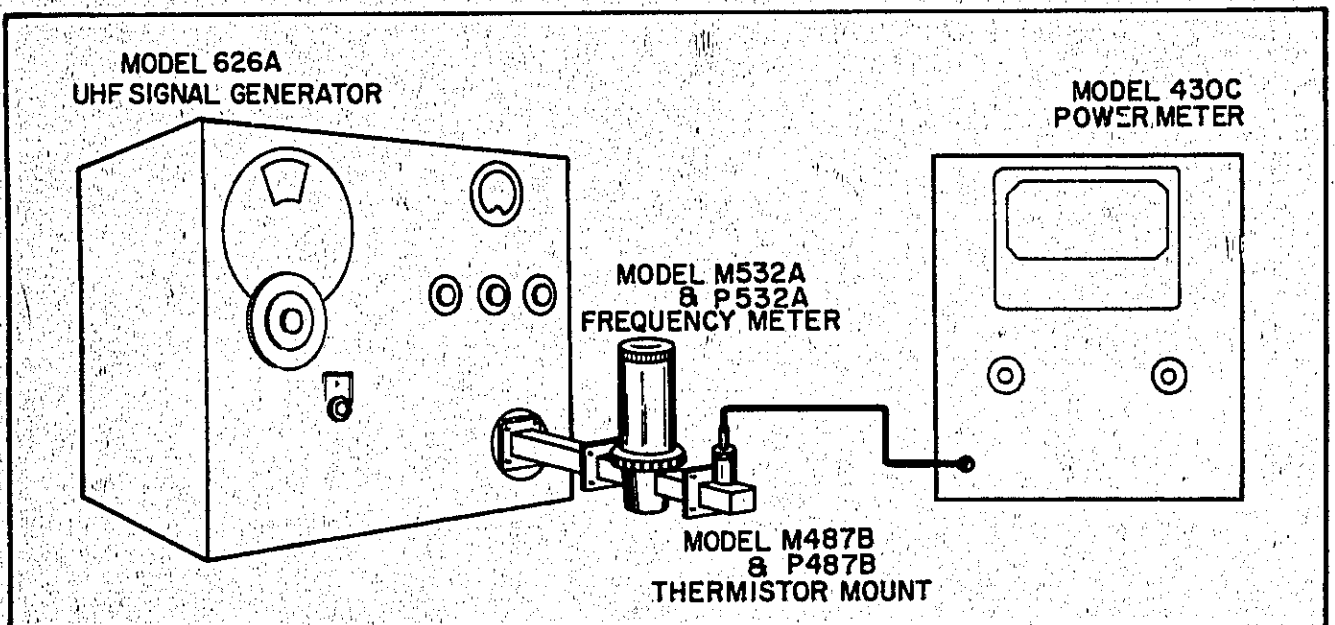

Figure 5-16. Test Setup for Adjusting Output Power
a. Connect test setup as shown in Figure 5-16.
- a. Connect test setup as shown in Figure 5-16.
- a. Connect test setup as shown in Figure 5-16 using M-band equipment.
- a. Connect test setup as shown in Figure 5-16 using P-band equipment and the Model MP292B Adapter.